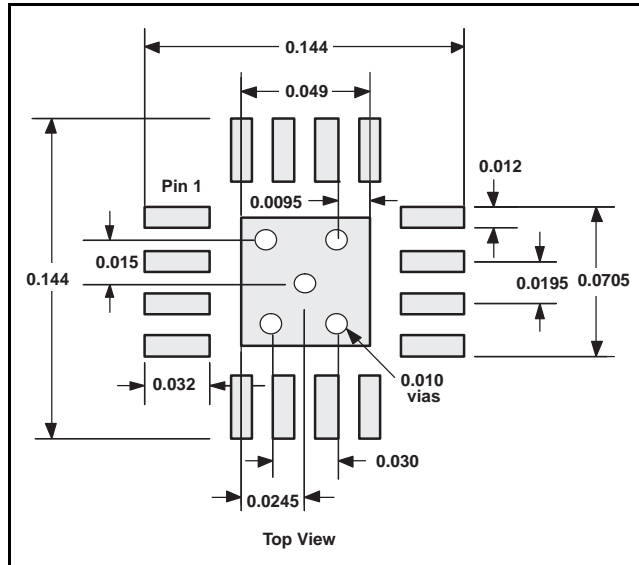

Figure 88. PowerPAD PCB Etch and Via Pattern
9. The recommended printed circuit board (PCB) footprint for the THS4513 is shown in the Land Pattern of Figure 88.
1. Prepare the PCB with a top side etch pattern as shown in Figure 88. There should be etch for the leads as well as etch for the thermal pad.
- Changed item 9 of the *Layout Recommendations* **29**
- Moved Figure 88 and associated sentence to beginning of *PowerPAD PCB Layout Considerations* section **30**